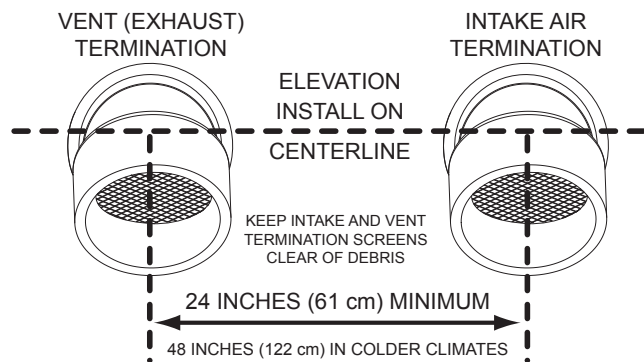

Figure 25. Side-Wall Termination - Direct Vent
4. If installing both an intake air and vent termination in a Direct Vent configuration through a sidewall there must be a minimum of 24 inches (61 cm) separation, measured on vertical center line, between the intake air and vent terminations. See *Figure 25*.
6. If installing both intake air and vent terminations in a Direct Vent configuration through a sidewall the intake air and vent terminations must be installed at the same elevation measured on horizontal center line. See *Figure 25*.
- However, the distance between the closest vent and intake air terminations must be a minimum of 24 inches (61 cm). In colder climates this separation should be increased to at least 48 inches (122 cm). See *Figure 25* (page 32).